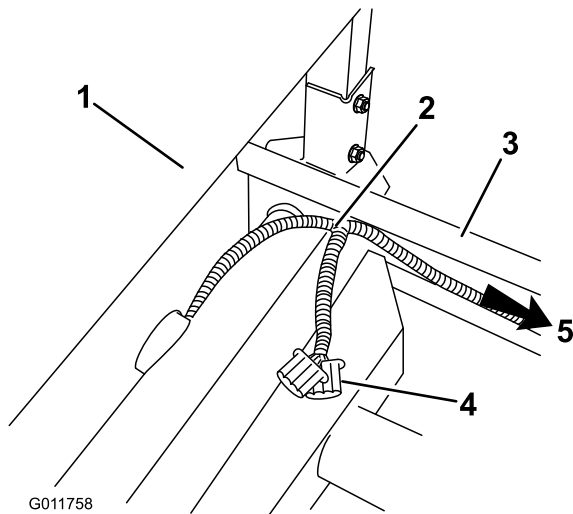

Figure 13
14. At the ROPS cover, rear of the seat assembly, route the wiring harness up from under the seat and above the frame. Make sure the spray system power connector is out from underneath the vehicle (Figure 13).